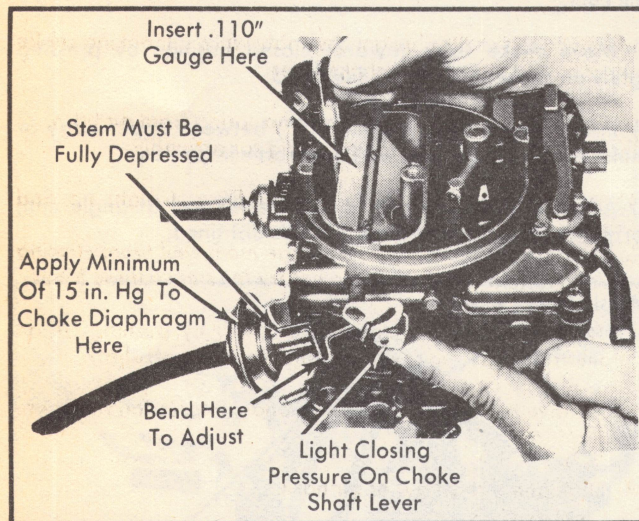

Fig. 6 View Of Carburetor Showing Choke Vacuum Kick Measurement & Adjustment Locations
- 3) Connect outside vacuum source of at least 15 in. Hg to choke diaphragm. See Fig. 6.